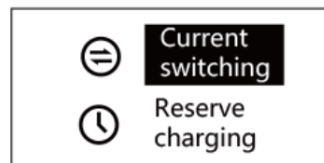
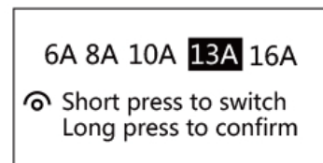

Figure 6
Figure 7
2. Press and hold down the sensitive button to enter the configuration menu (Figure 6). Then press and hold the button a second time to enter "Current switching". Select the desired current by pressing briefly on the sensitive button. Then press and hold down to confirm (Figure 7) **Caution: do not exceed 10A if you are not using a reinforced socket!**
1. Connect the domestic plug of the cable to a standard or reinforced domestic socket. Do not connect the vehicle. The LED flashes green. Enter the configuration menu by pressing and holding the sensitive button (Figure 6).